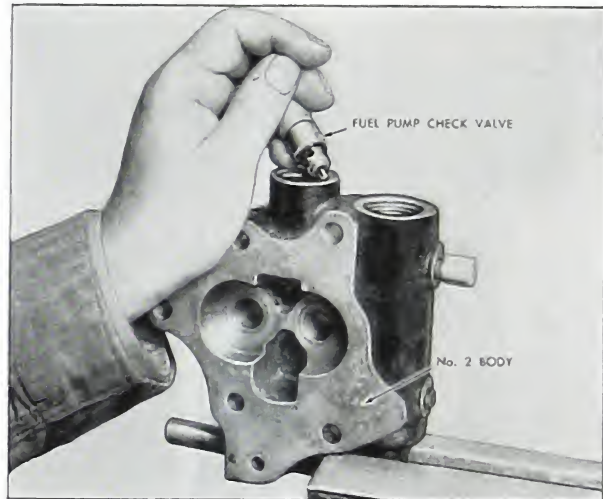

Fig. 5-33. Removing fuel pump check valve
16. The fuel pump check valve, below the fuel pump screen, can be removed by inserting a finger and pulling it out. (Fig. 5-33).